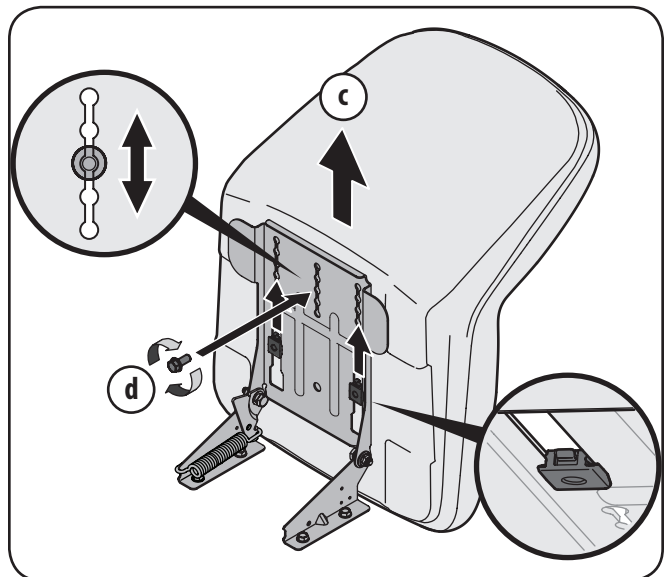

Figure 3-5
3. Slide the seat rearward in the seat pivot bracket (c), lining up the center rear slot in the pivot bracket with the remaining hole in the seat's base. See Figure 3-5.
**Note:** Be certain the two seat tabs engage the pivot bracket as shown in the bottom inset of Figure 3-5.
4. Select desired position for the seat, and secure with the adjustment bolt removed earlier (d in Figure 3-5).
5. To adjust the position of the seat, remove the adjustment bolt on the bottom of the seat. Slide the seat forward or backward as desired. Reinstall the adjustment bolt. See Figure 3-5.
**IMPORTANT:** Do not overfill the tank. Fill tank to no more than 1/2 inch below bottom of filler neck to allow space for fuel expansion. See Fig. 3-5.